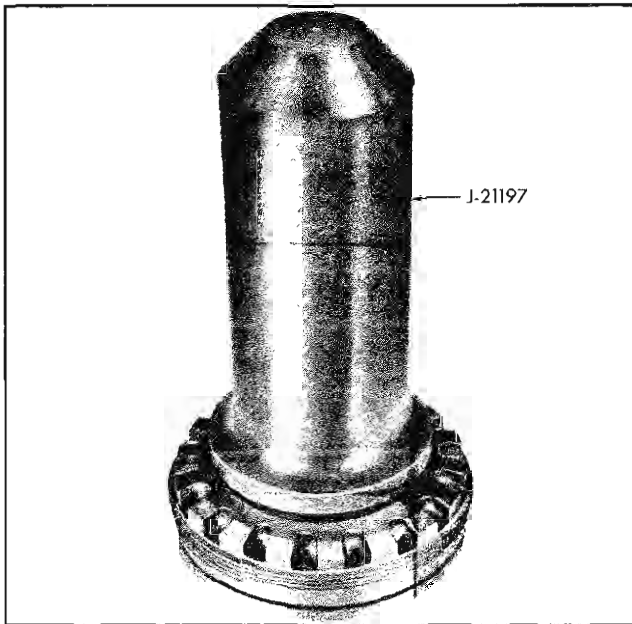

Fig. 4-57 Tool Positioned to Install Front Oil Seal (Automatic only)
2. Apply uniform bead of sealer and replace front oil seal (automatic transmission only) using tool J-21197 (Fig. 4-57).